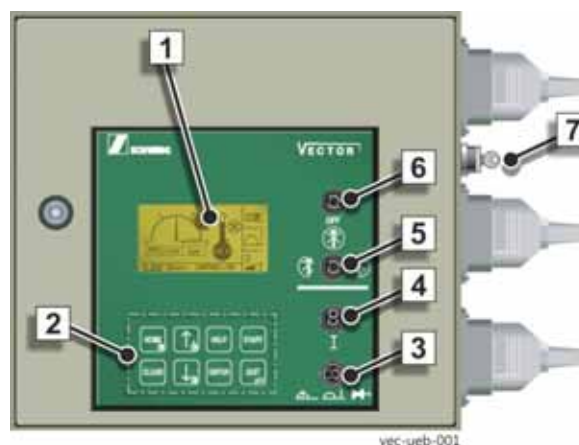

Fig. 85
- To do this, insert the key into the key-operated switch (7) (**Fig. 85**) and switch on the EMERGENCY STOP bypass function. The key cannot be removed in this position.
- Return the key-operated switch (7) (**Fig. 85**) to the neutral position and remove the key before leaving the jobsite.